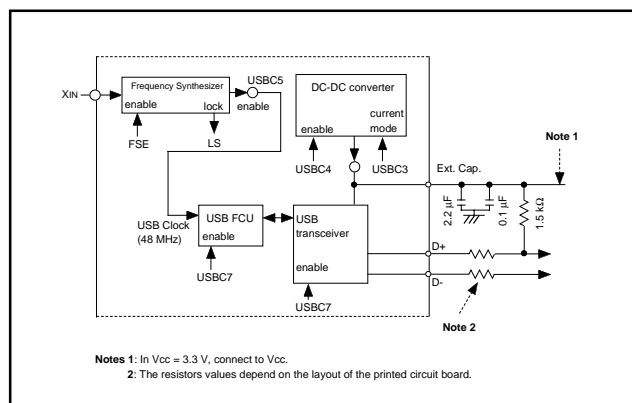

Fig.125 Peripheral circuit
•Connect a capacitor between the Ext. Cap. pin and the Vss pin. The capacitor should have a 2.2 μF capacitor (Tantalum capacitor) and a 0.1 μF capacitor (ceramic capacitor) connected in parallel. Figure 125 for the proper positions of the peripheral components.